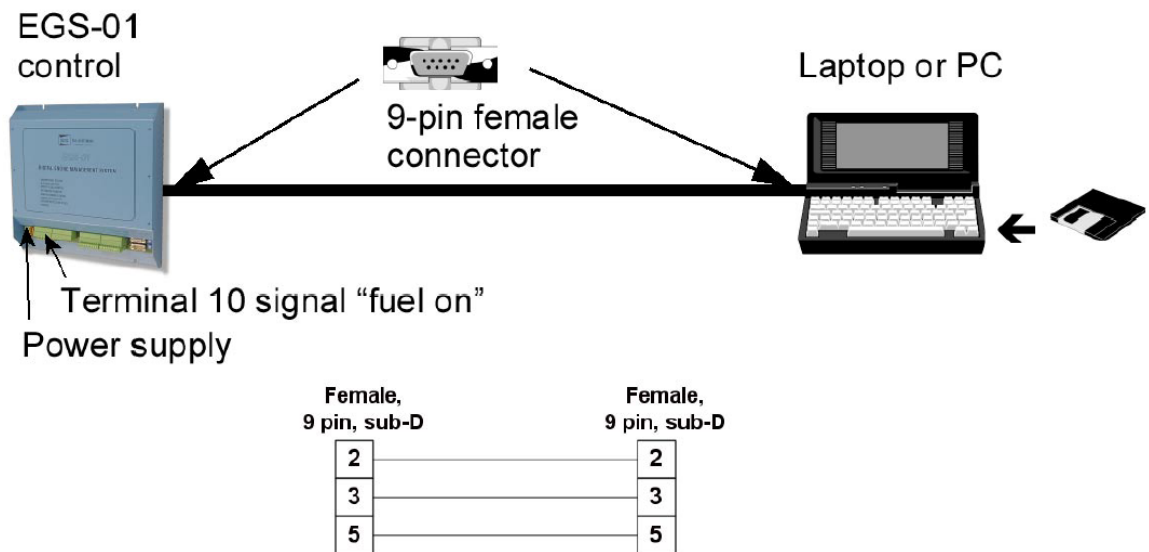

Figure 3-2. Cable Connection
- A straight or 1:1 cable with 9-pin sub-D female plugs on both ends (see Figure 3-2)